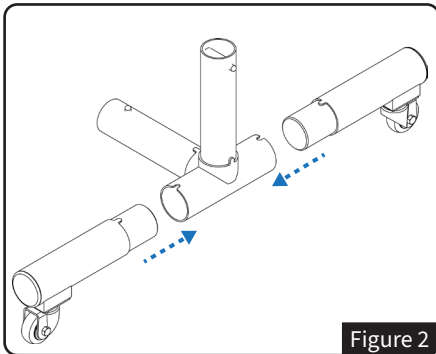

Figure 2
- Slide one **Weighted Caster (A)** into the **Tri-Link (Part B)**, ensuring the tab fits into the slot. See *Figure 2*.